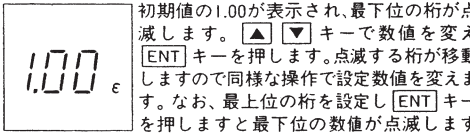

Fig. 5
- c. Press MODE key. 1.00 or the value set previously is shown on the display, with the lowest digit blinking. Press [▲] or [▼] key to change th blinking number and press ENT key. Repeat the same step on the other digits. (Fig.5)
- (2)Alarm